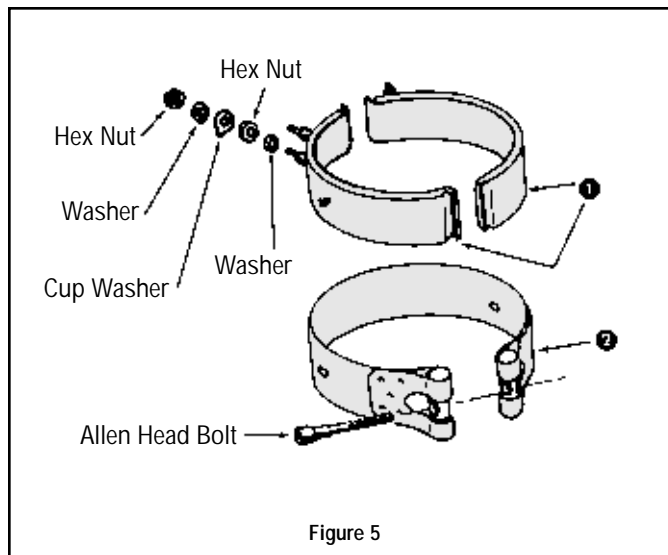

Figure 5
2. Assemble terminal hardware and wiring in the order shown in Figure 5.